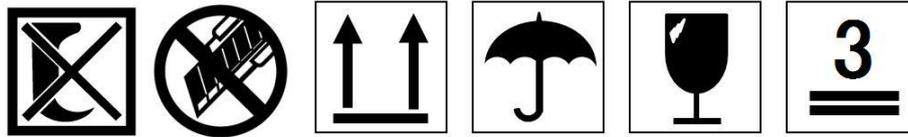

Figure 5-2 Handling marks
- ❗ Be sure to follow all handling marks (Figure 5-2).